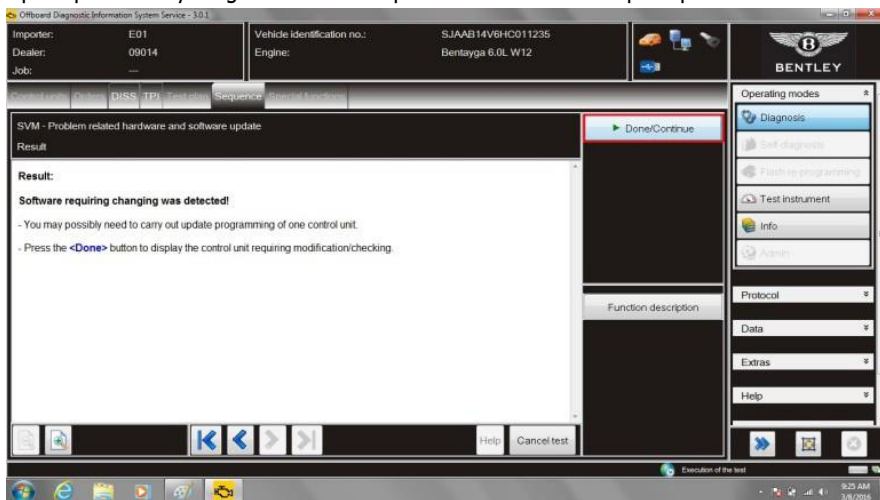

Figure 4
12. Once software that requires changing is detected select *Done/Continue* (see Figure 4). Follow prompts, the online connection will deliver the required software to the tester